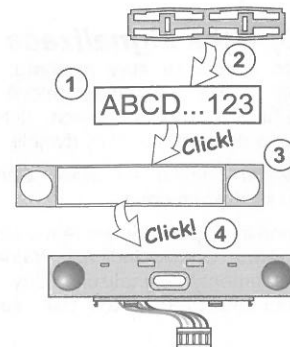

Figure 3: Insertion of a label into a control segment
- Connect the segment wires to the internal connector of the keypad (7).
- Press the backlit activation button (3) the module is thus enrolled and the yellow LED indicator goes off.
- When you have completed the installation, insert descriptive labels onto the segment transparent covers and close them, see figure 3. Label printing is a part of the F-Link software (**Devices** window, at the module position – **Internal settings**).